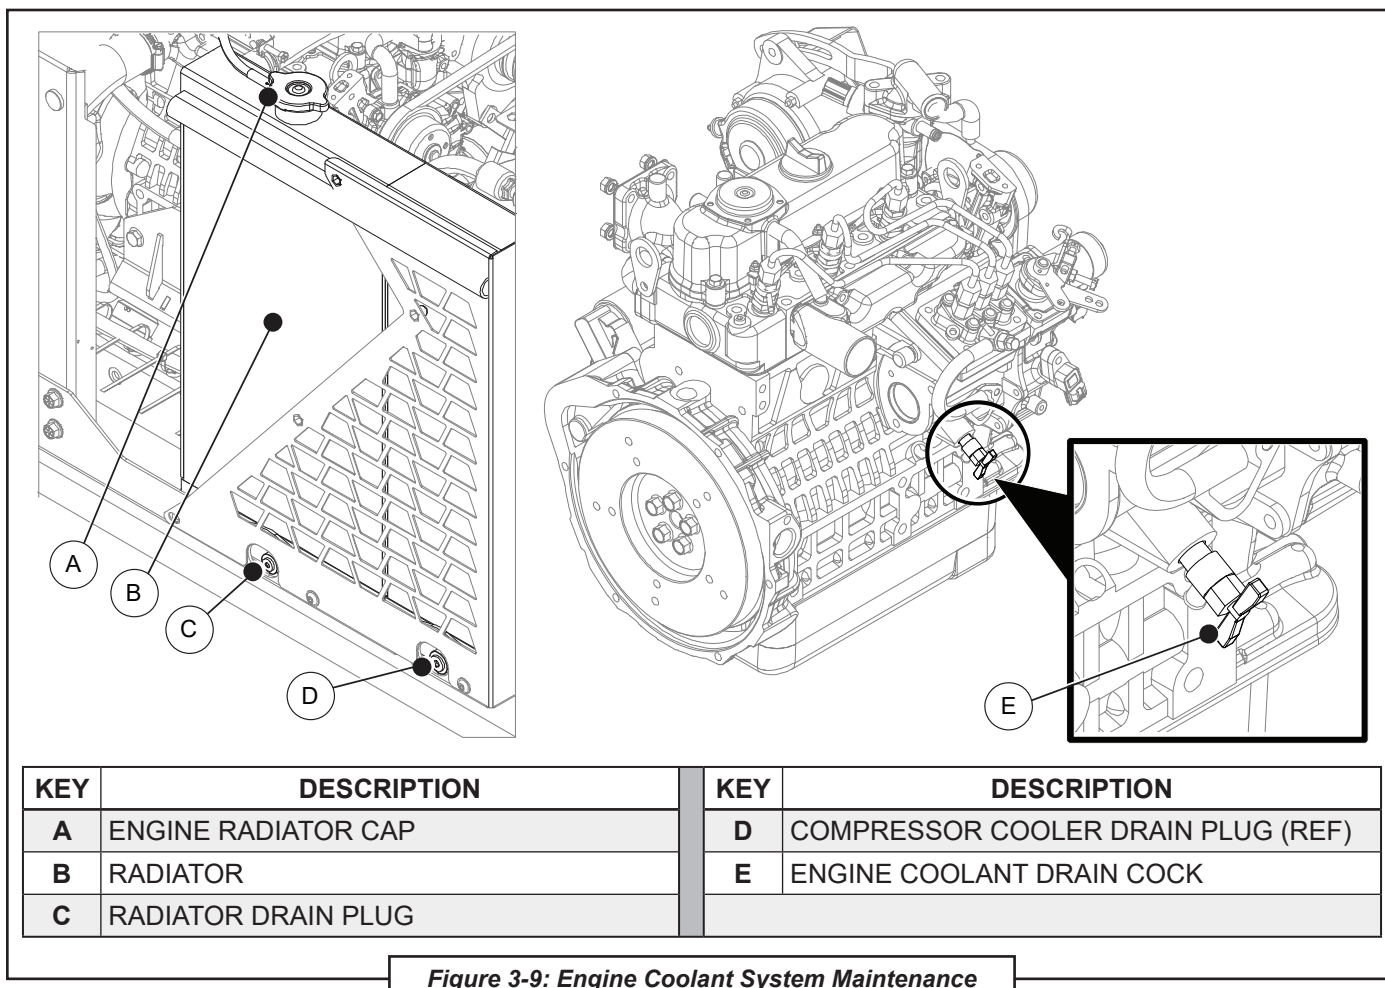

Figure 3-9: Engine Coolant System Maintenance
DRAINING (refer to Figure 3-9)
2. Place a container capable of holding 1.2 gallons or more at the coolant drain outlet ([C] in **Figure 3-9**). Remove the port plug and allow all the coolant to drain. Re-plug after the all the coolant has been drained.